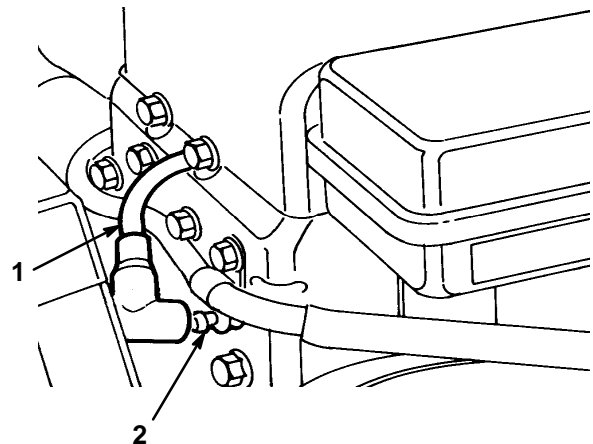

Figure 18
1. Remove the wire from the spark plug (Fig. 18).
2. Pull the wire off the spark plug (Fig. 18).
3. Push the wire(s) onto the spark plug (Fig. 18).